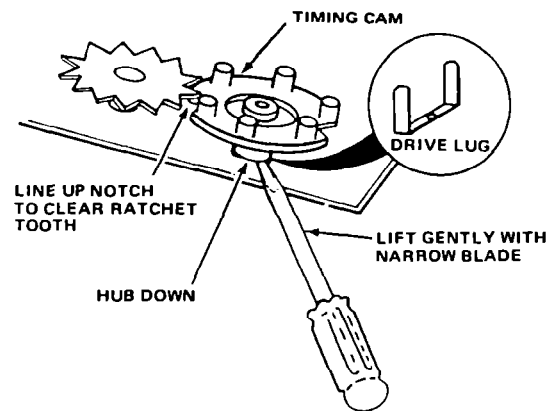

FIGURE 1
- Rotate cam by hand until "V" notch lines up underneath the ratchet tooth. (See Figure 1)